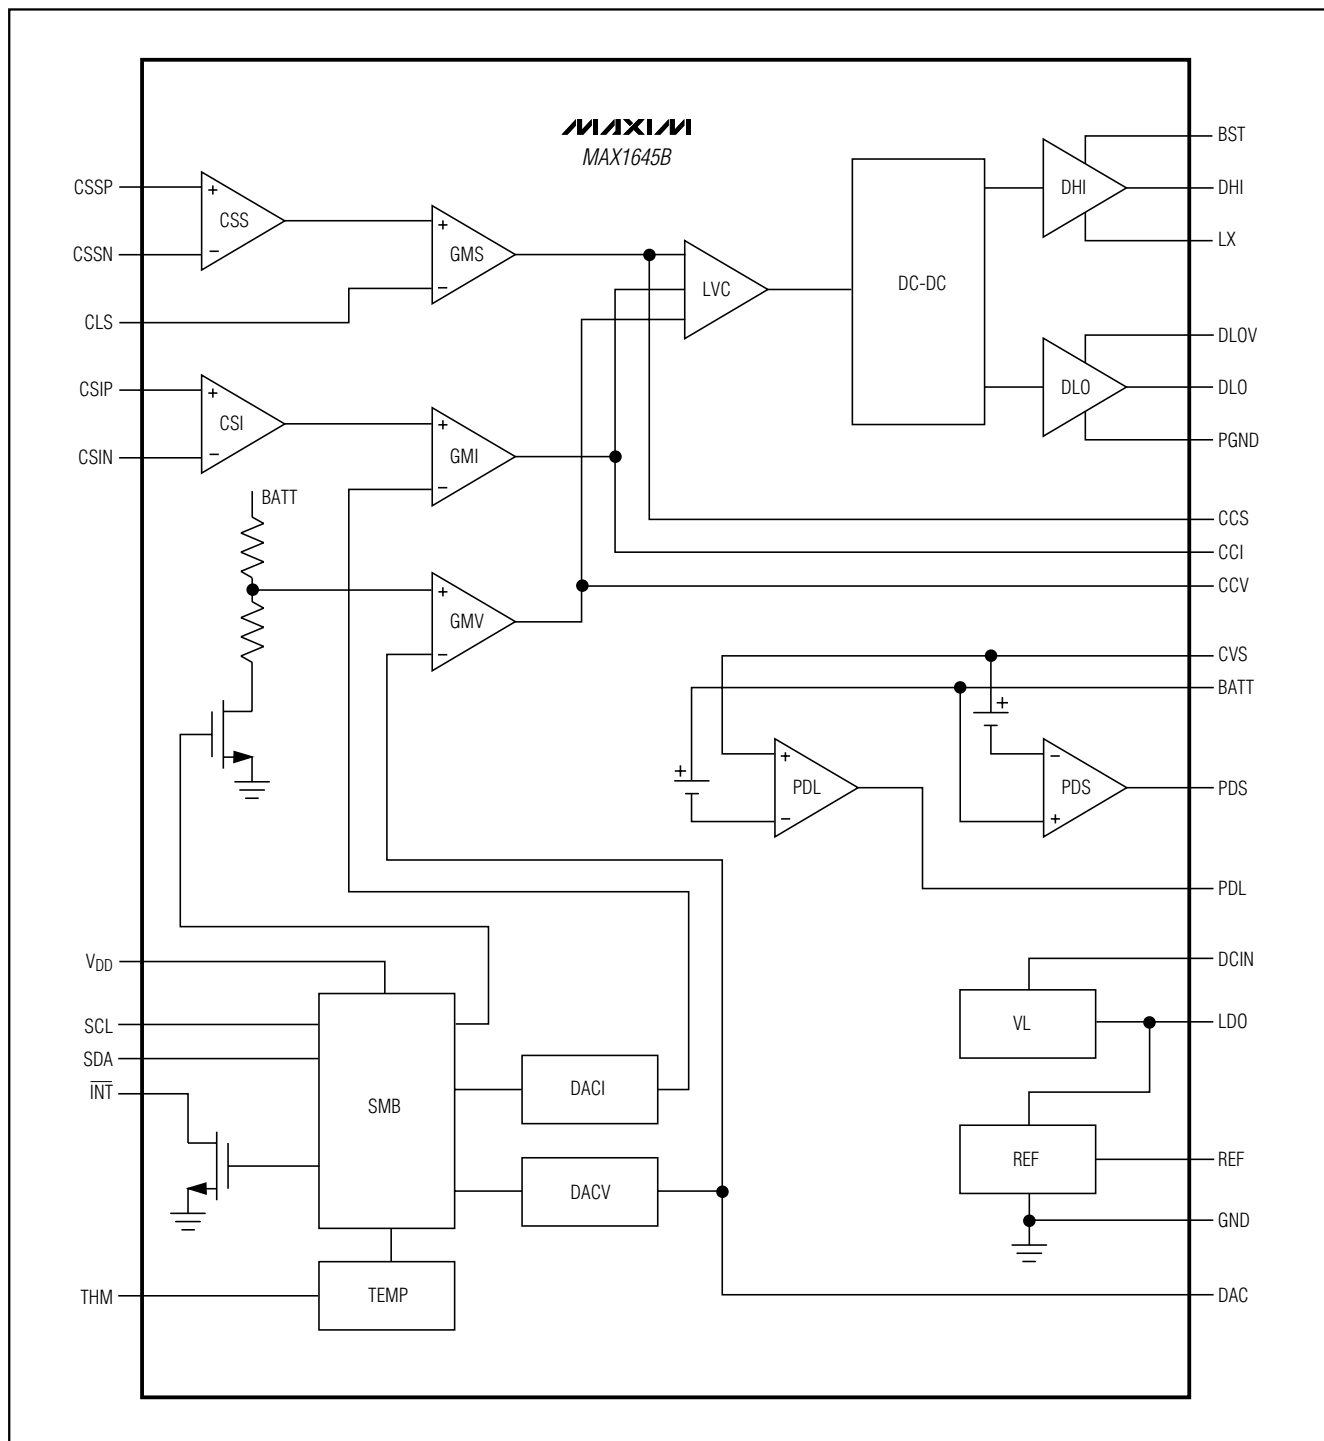

Figure 2. Functional Diagram
The MAX1645B consists of current-sense amplifiers, an SMBus interface, transconductance amplifiers, reference circuitry, and a DC-DC converter (Figure 2). The DC-DC converter generates the control signals for the external MOSFETs to maintain the voltage and the current set by the SMBus interface. The MAX1645B features a voltage-regulation loop and two current-regulation loops. The loops operate independently of each other. The voltage-regulation loop monitors BATT to ensure that its voltage never exceeds the voltage set point (V0). The battery current-regulation loop monitors current delivered to BATT to ensure that it never exceeds the current-limit set point (IO). The battery current-regulation loop is in control as long as BATT voltage is below V0. When BATT voltage reaches V0, the current loop no longer regulates. A third loop reduces the battery-charging current when the sum of the system (the main load) and the battery charger input current exceeds the charging source current limit.